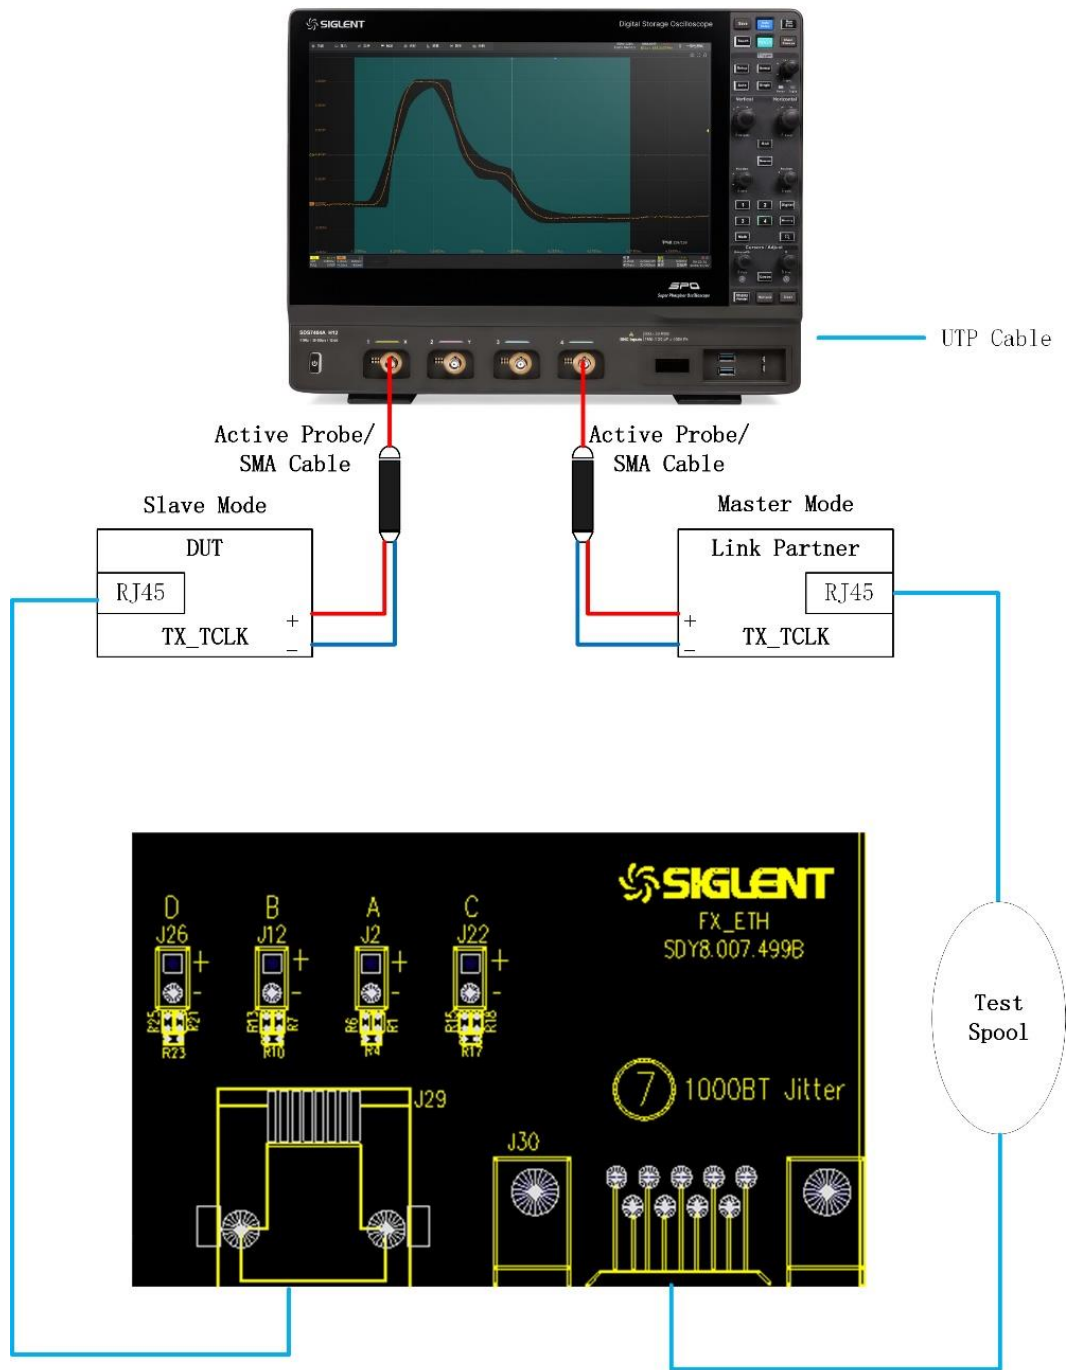

Figure 10-10 Probing for 1000 BASE-T Slave TX\_TCLK Jitter (Filtered and Unfiltered)
The test channel as defined in Figure 10-9 can be applied to the test environment as Figure 10-10 shown. The test channel is used to connect the Link Partner (Master) to the J30 connector on the section ⑦ on the test fixture. The test environment is set up as follows:
- (1) Connect the DUT (work in Slave mode) to the J29 connector on section ⑦ of the test fixture by using a short UTP cable.